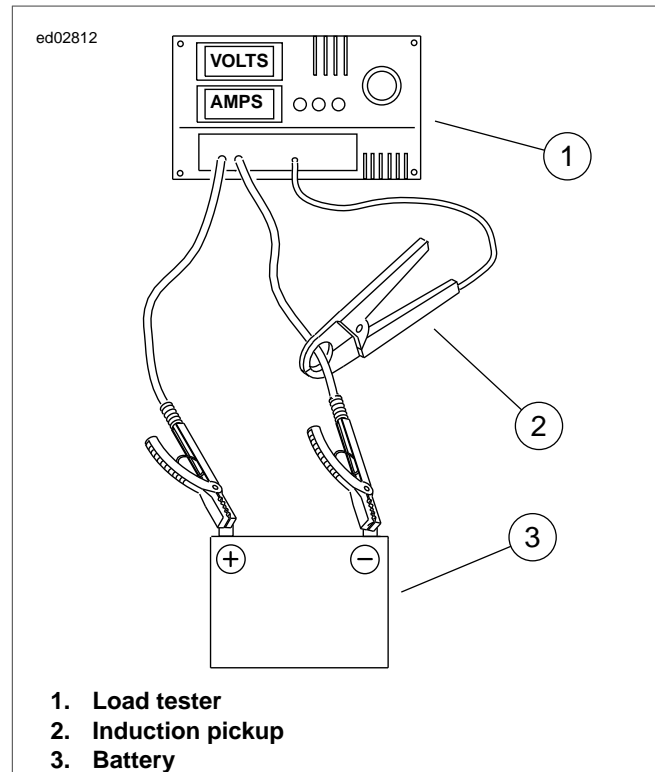

Figure 1-22. Load Test Battery
- See Figure 1-22. Connect tester leads to battery posts and place induction pickup over negative (black) cable.